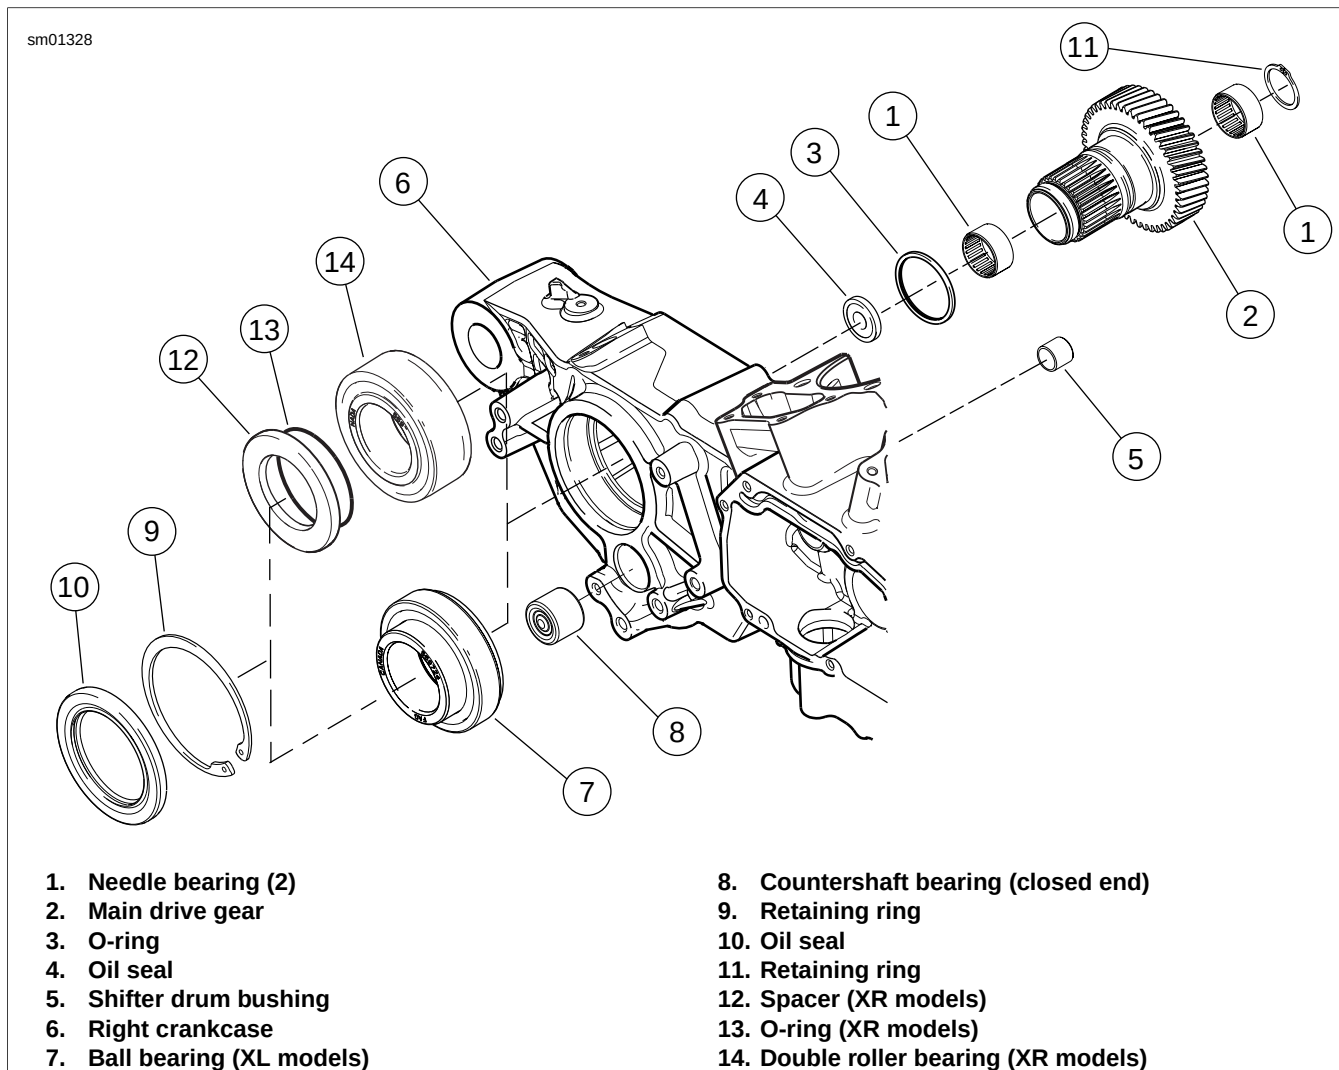
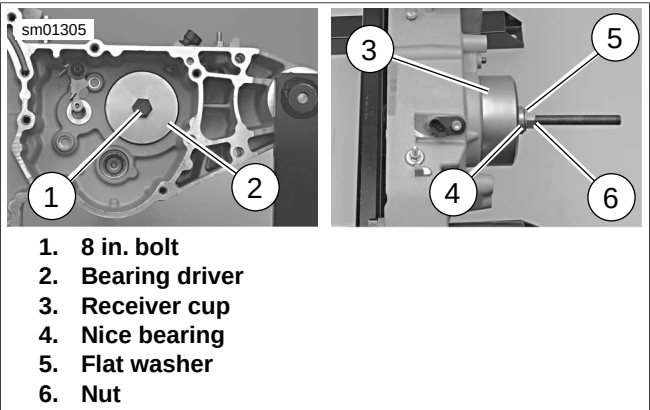
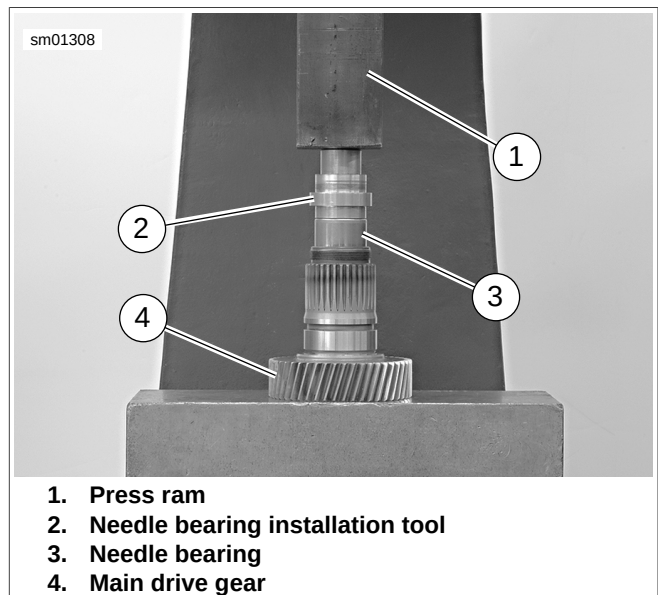
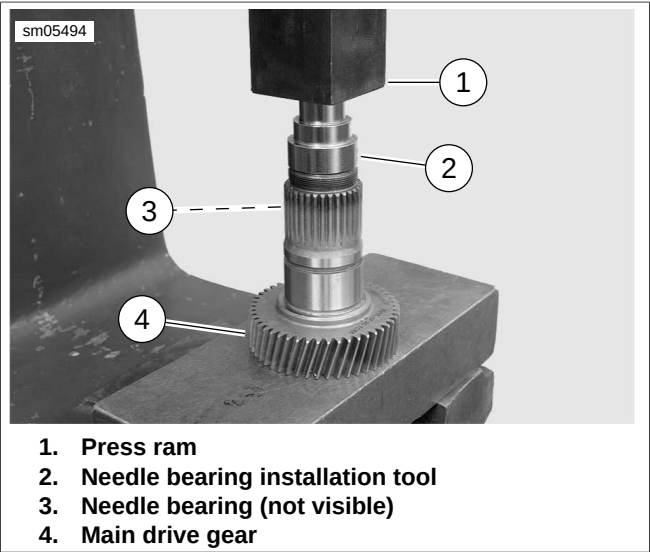

Figure 5-70. Main Drive Gear and Bearing Assembly
Figure 5-74. Removing Main Drive Gear Bearing (typical, XL model shown)
Figure 5-78. Pressing Outer Needle Bearing Assembly into Main Drive Gear: XL Models
Figure 5-79. Pressing Outer Needle Bearing Assembly into Main Drive Gear: XR Models
See Figure 5-70. When removing the main drive gear (2), the gear is pressed out against the resistance of the ball bearing
- 1. See Figure 5-70. Remove and discard oil seal (10). Remove and discard main drive gear bearing retaining ring (9).
- 2. **XR Models:** remove spacer (12) and o-ring (13).
- 3. See Figure 5-74. Install driver components: From inside crankcase, position bearing driver (2) over main drive gear bearing.
- 4. Insert 8 IN. BOLT (Part No. HD-35316-4A) (1) through bearing driver and bearing.
- 5. At outside of case, slide RECEIVER CUP (Part No. HD-35316-11) (3) onto bolt and over bearing. Install NICE BEARING (4), FLAT WASHER (5) and NUT (6) over end of bolt.
- 1. See Figure 5-70. Remove retaining ring (11) from inboard end of main drive gear (2). Discard retaining ring.
4. See Figure 5-78 or Figure 5-79. Place main drive gear (4) on press bed with gear end facing down.
5. Place needle bearing (3) squarely into end of drive gear with lettered side of bearing facing up. Always press on lettered side of bearing to install. Insert installation tool (2) with end stamped "OUTER" facing needle bearing.
7. See Figure 5-70. Install **new** retaining ring (11) in inboard end of main drive gear (2).